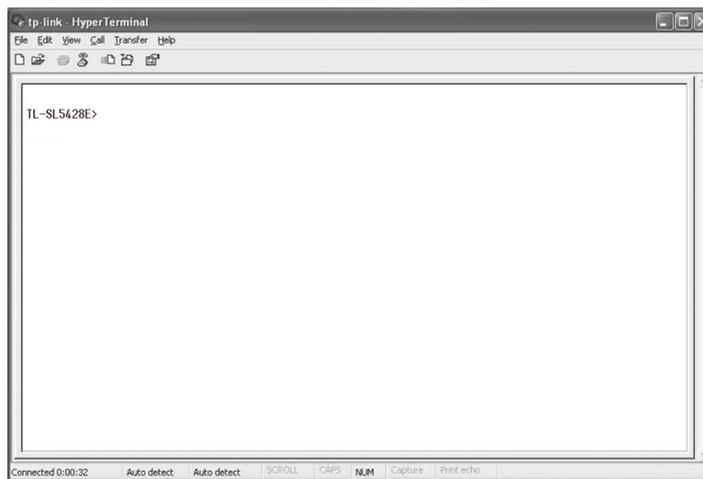

Figure 5-8 Log in the Switch
6. The DOS prompt "TL-SL5428E>" will appear after pressing the Enter button as shown in Figure 5-8. It indicates that you can use the CLI now.